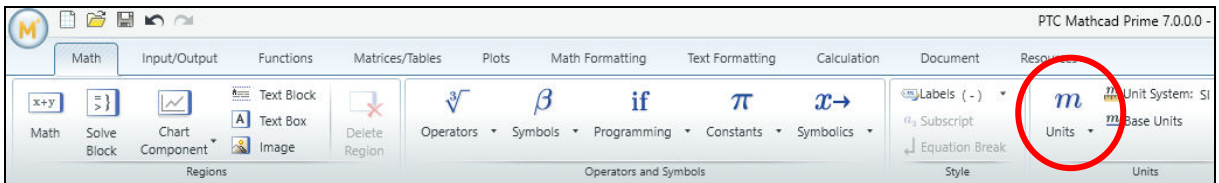

Figure 2.6: Mathcad Prime® menu bar with the units function
- To insert units you can type it directly behind the value or you can use the units menu to search for the desired units (see Figure 2.6, marked red).